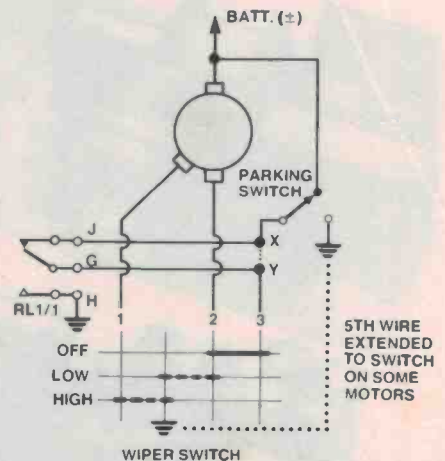

Figure 5. Wiring the relay contacts to a dual-speed permanent magnet wiper system.
A dual-speed permanent magnet system is illustrated in Figure 5. Here, the wire from the wiper switch to the parking contacts (3) is cut at X-Y and the wiper controller's normally closed contacts (J and G) connected across the cut. The normally open contact (H) is connected to chassis. If you need maximum wiper speed when using this system, simply use the wiper switch as you normally would.
return lead) so that they may be fitted to either positive or negative earthed electrical systems. In such cases, you'll find a fifth wire extended from the wiper switch to the wiper motor, as indicated in Figure 5.